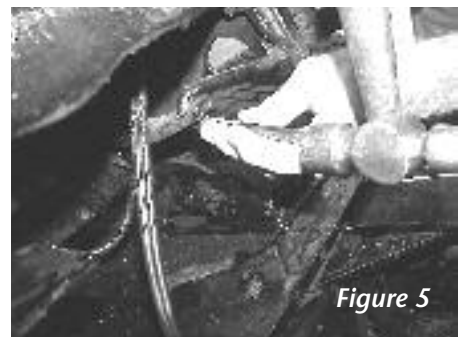

Figure 5
5. Drive the slotted spring pin out of the operating rod and remove the rod (Figure 5).
- Install the operating rod and slotted spring pin (Figure 5).